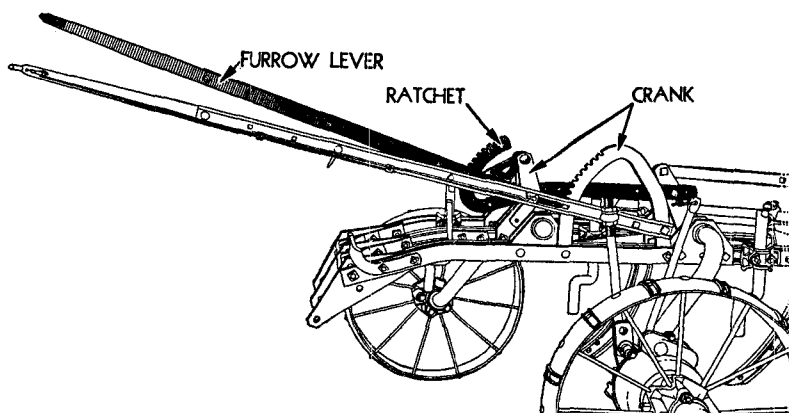

FIGURE 7—ATTACHING FURROW LEVER
6. **FURROW LEVER.**—Attach lever and ratchet to cranks welded on furrow and land axles. (Figure 7.) Follow same procedure in bolting levers and dog rods together as master lever. (See operating instructions for adjustments.)